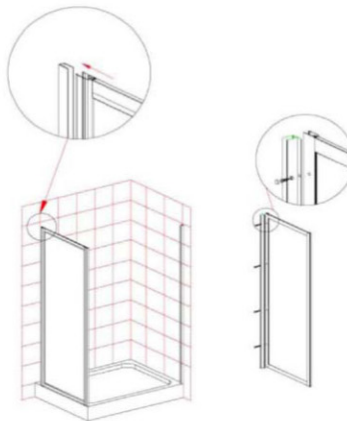

Fig 5
- Place the side panel (20) into the wall profile (17). Connect the wall profile (1) to the side panel with the rubber washers and ST4.2x30 screw (5). Cover the screws with the screw caps (4), as shown in figure 5.